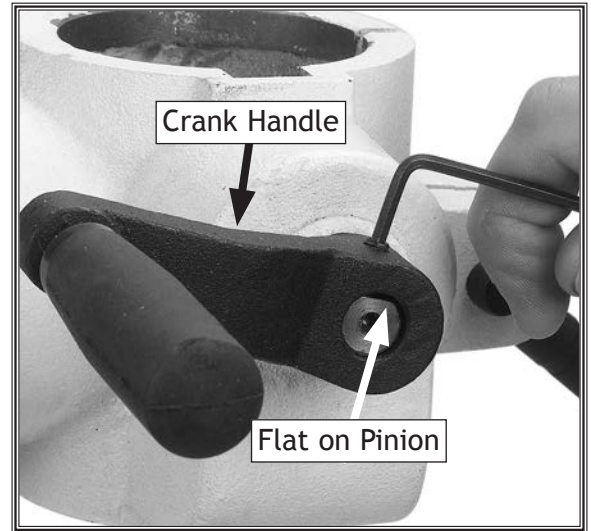

Figure 15. Crank and set screw positioning.
- Align the set screw in the crank handle with the flat on the pinion shaft and tighten, as shown in **Figure 15**.